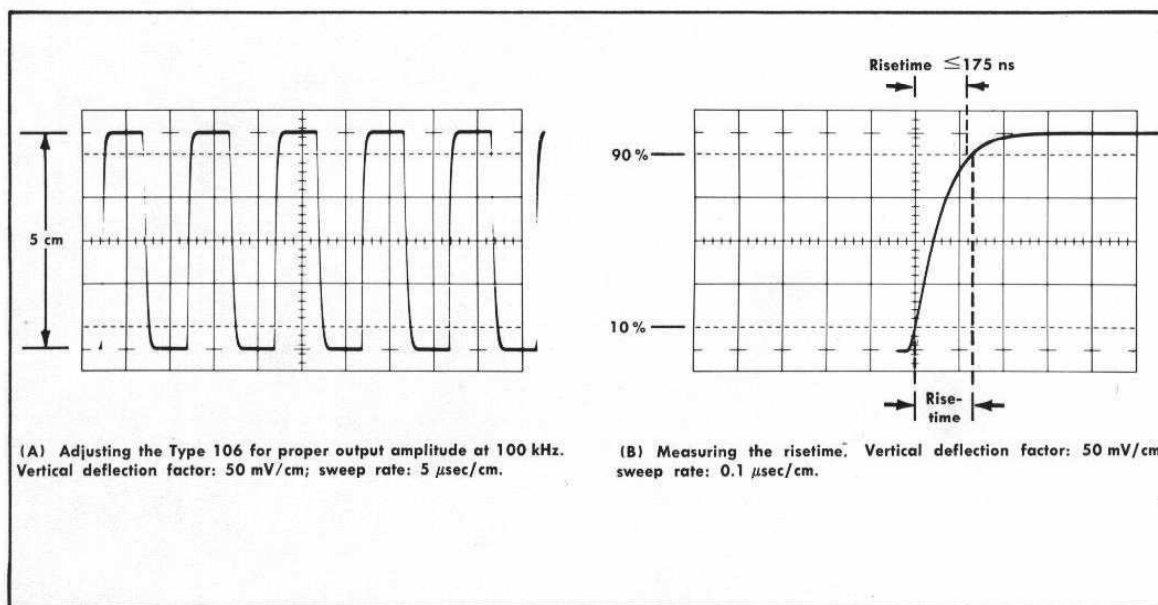

Fig. 6-18. Typical displays obtained when performing step 13.
- d. Set the oscilloscope Time/Cm selector to a fast sweep rate position (.1 μSEC or faster) and adjust the triggering controls so the rise portion of the square-wave is displayed. See Fig. 6-18.
- e. Measure the risetime of the square wave as shown in Fig. 6-18. Risetime should equal or be less than 175 ns. (Equivalent to bandwidth of 2 MHz).